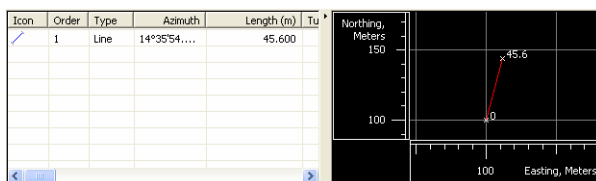

Figure 9-45. Table and Graph Pane for the Created Line
- Click **OK**. The Table and Graphic panes of the right panel of the *Road* tab displays the created line (Figure 9-45).